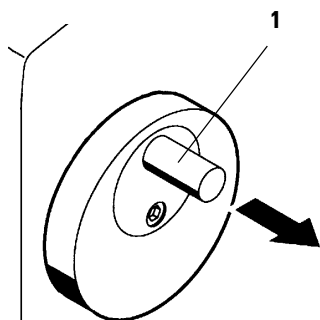

Fig. 6.2
- To center, lightly pull the handle (1) out (Fig. 6.2) and rotate it to the center of the handwheel (Fig. 6.3).